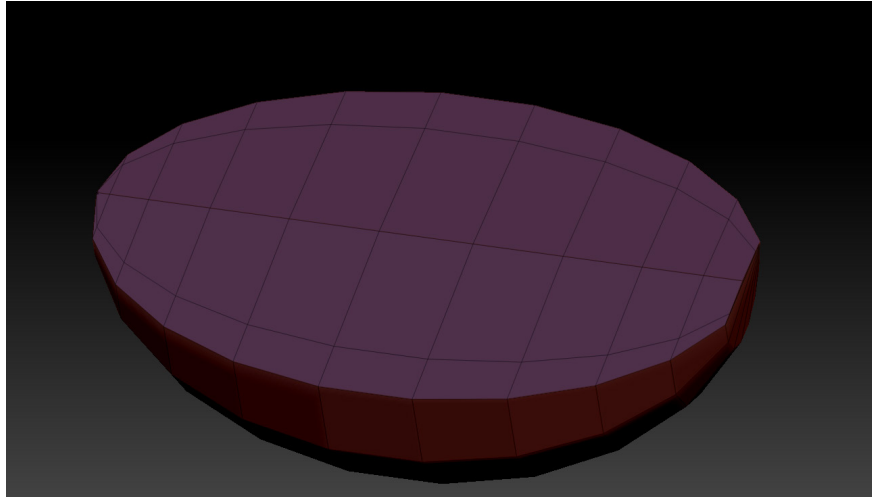

Figure 3-114 The point deleted
4. Hover the cursor over the bottom-most point, hold the ALT key and click; the point is deleted and the shape of the sphere is changed, as shown in Figure 3-114.